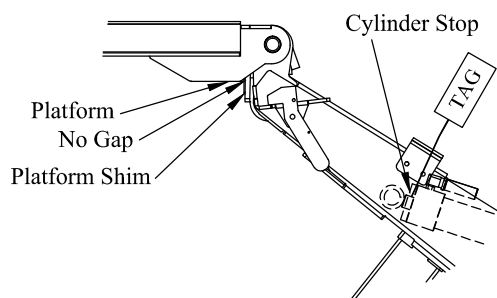

Figure 9: Platform shim & cylinder stop.
10. **Verify** that the platform is fully rotated against the platform shims and there is no gap (Figure 9).
22. **Remove** the tagged cylinder stops from each cylinder (Figures 9 & 12). This must be done with the gate lowered.